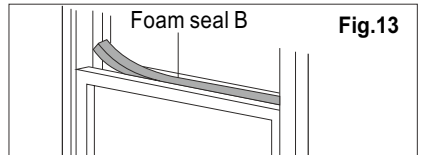

Fig.13
7. Cut the foam seal B to an appropriate length and seal the open gap between the top window sash and outer window sash, as shown in Fig.13.